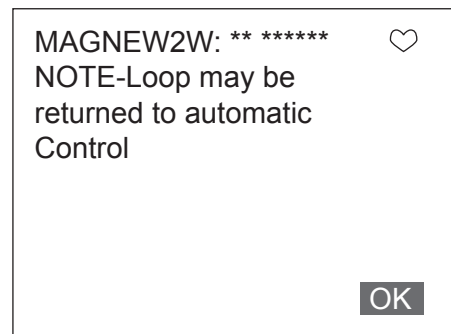

Fig. 7-70.
4. Fig. 7-70. will then appear. By pressing F4 (OK), excitation current adjustment starts, and the converter will adjust the excitation current to 3.5 mA. If it is fine, press F4 (OK).